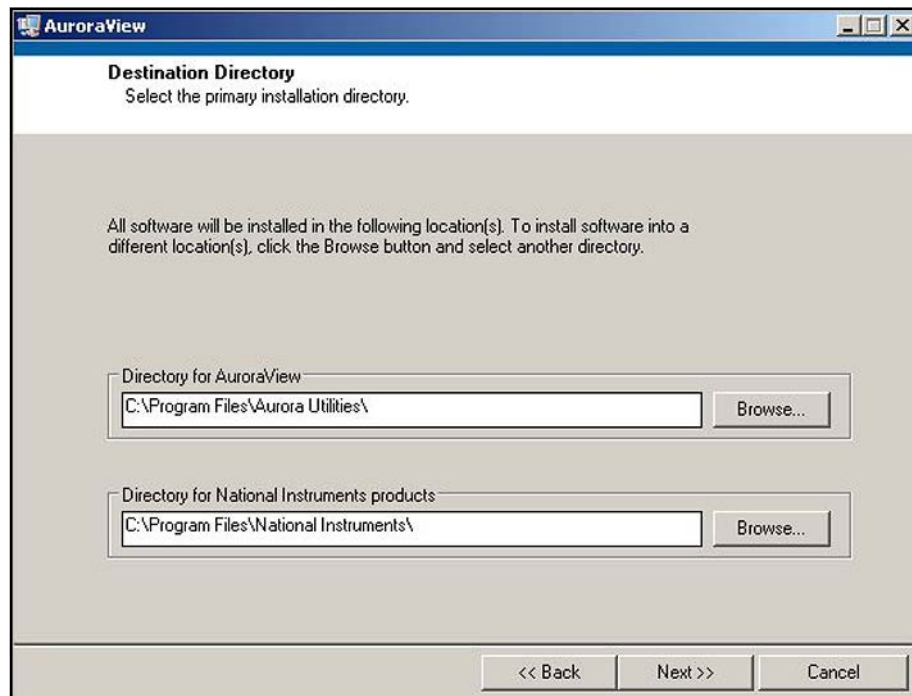

Figure 23: Destination Directory
5. The next screen (see *Figure 23* below) provides the opportunity to change installation locations if desired. When ready, click **Next**.